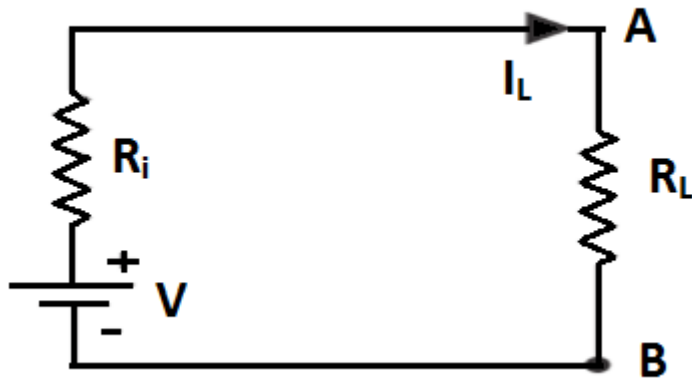

Figure 1
As in figure 1, two terminal DC circuit in which the condition for maximum power is to determine. Any change in the load resistance will change in power transfer to the load.
The apparatus is a simple circuit as shown in figure 1 consists of power supply source having different loads. Loads ranges from 100ohm to 1000 ohms. Observation of current and voltage are taken for all the loads to found out power deliver to load.
1. Switch on the circuit as shown in figure1.